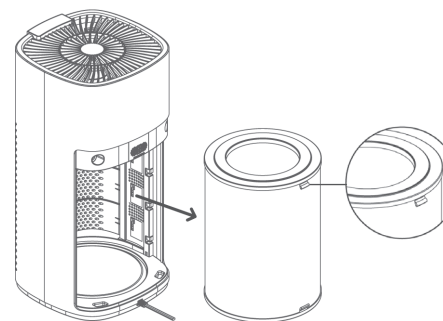

Figure 2
3. Remove the filter by pulling out the tab at the top of the filter. We recommend that you have a bag ready to prevent the pollutants on the filter falling back into the room (Figure 2).